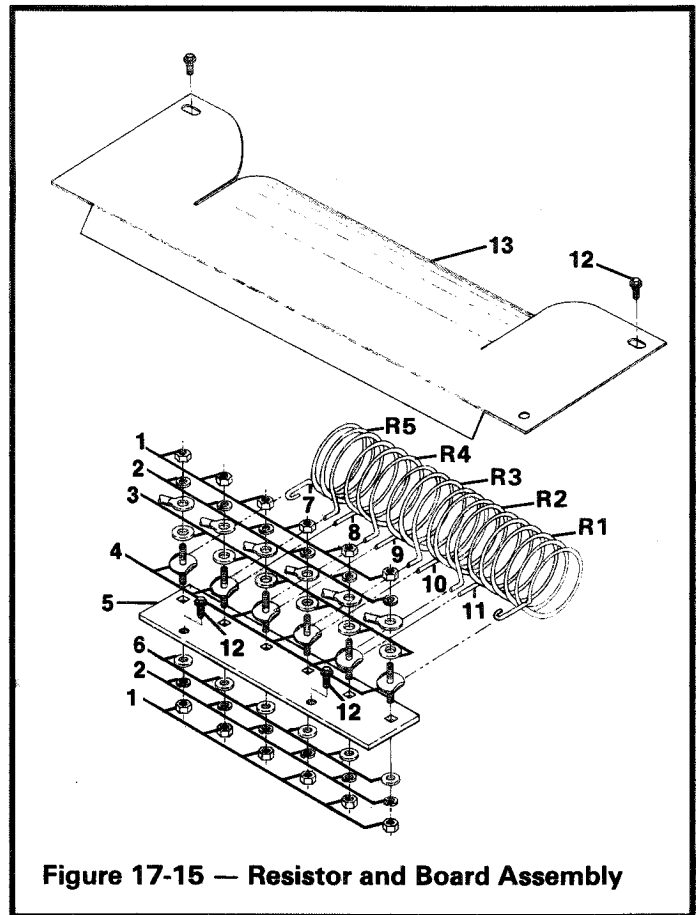

Figure 17-15 — Resistor and Board Assembly
1. Loosen the nuts (1) which hold the particular resistor to the mounting board and slide the resistor out from underneath the washer (3). The nut does not have to be removed (Figure 17-15).
Refer to the circuit diagram (Figure 17-15) and note that R1 has the smallest wire and largest number of coils. R5 has the largest wire and smallest number of coils (see Chart 1). Be sure that the resistors are installed in proper sequence.